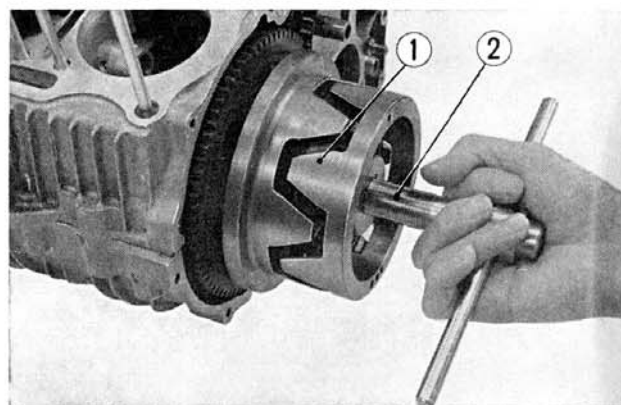

Fig. 8-5 ① A.C generator rotor
1. Remove the dynamo cover and pull out the generator rotor using the rotor puller (Tool No. 07933-3000000) (Fig. 8-5)